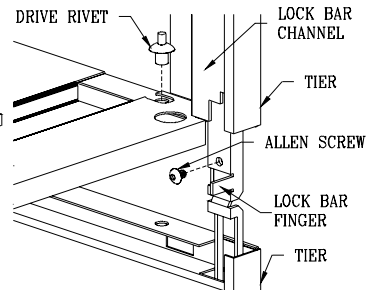

Fig. 1
- 2 Insert the two (2) lock bars (see Fig. 1a) into the lock bar channels going from the underside of the tier up. Make sure lock bar finger faces toward front of tier (Fig. 1).
- 1 Remove next add-on tier and hardware kit from shipping box. From bottom of tier insert the two (2) lock bars into the lock bar channels as done previously in step A2. Carefully position tier on top of previous tier. Slide tier towards back of unit so the three INTERLOCKING TABS on the bottom of the tier hook under the rear lip of the tier below.
- 2 Lift up the front of the add-on tier and position it so that the lower lock bar tab fits inside the upper lock bar slot (Fig. 1) on both left and right sides. Fasten lock bars together using the Allen screws and Allen wrench provided in the hardware bag (Figs. 1).
2. **Disassembling Lock Bars (Fig. 1):** Using the Allen wrench provided, remove the Allen screws located on both the left and right side lock bars and set aside for re-assembly later. Now, lift up the tier in the front, slide towards you and set aside.